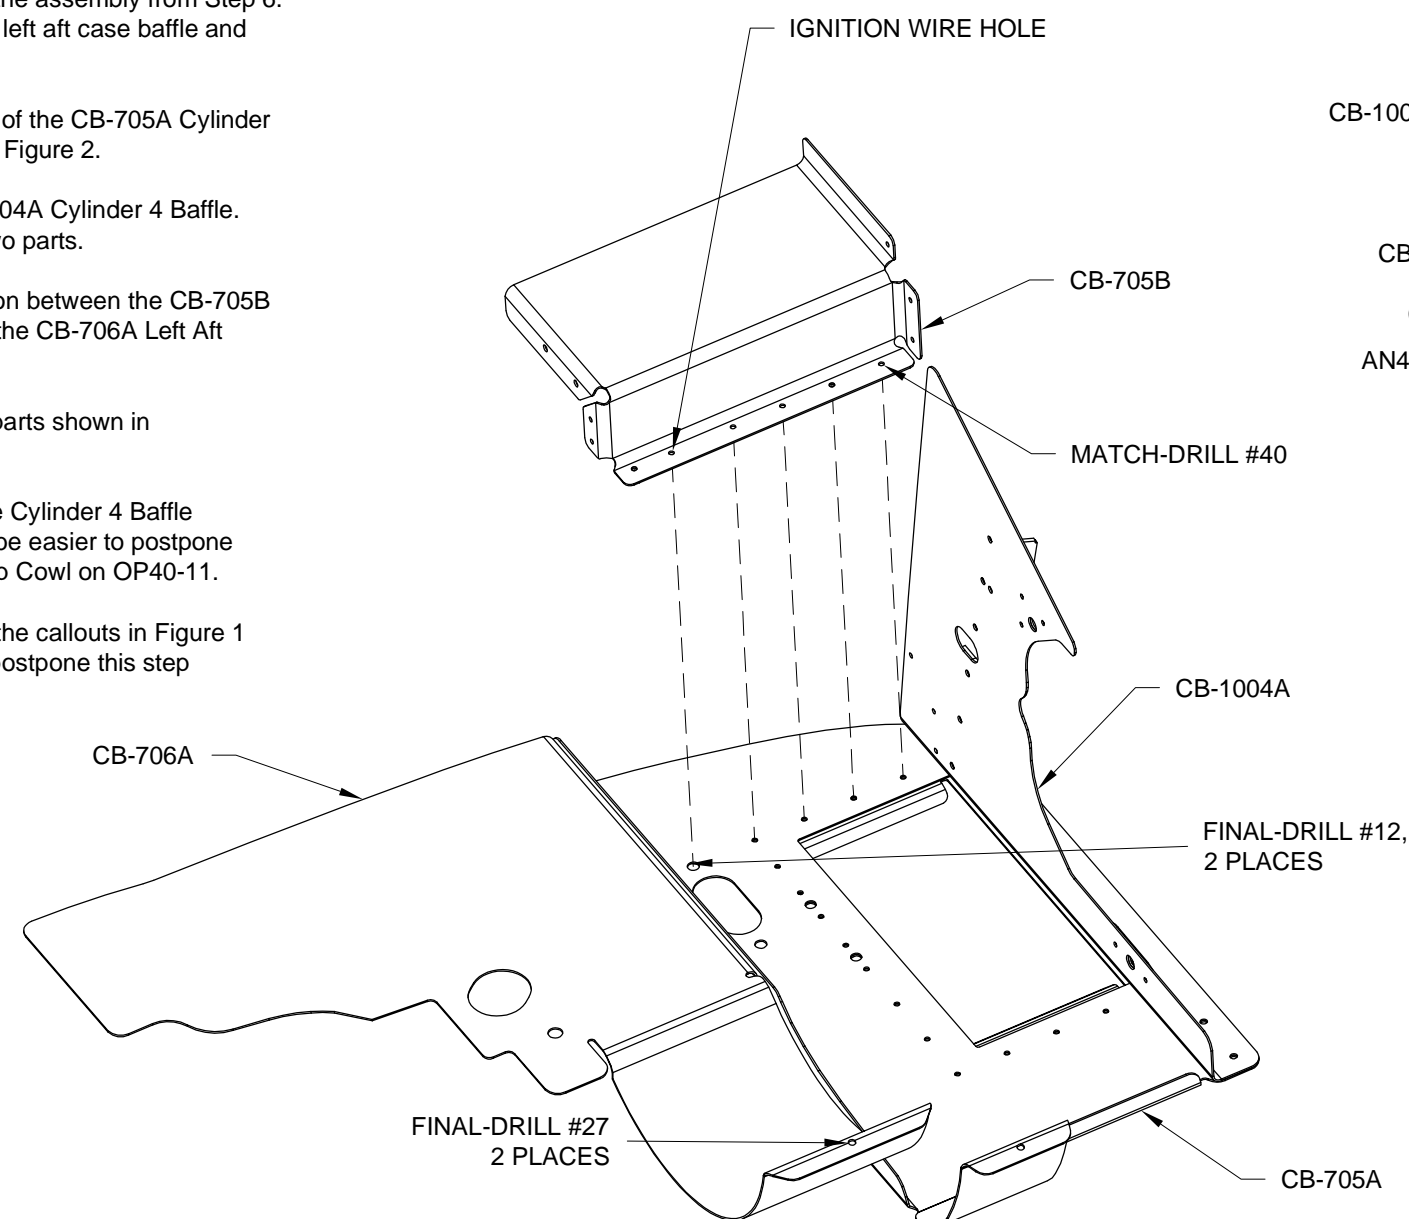

FIGURE 2: MATCH-DRILLING THE OIL COOLER BRACE
Step 11: Disassemble and deburr then recleco all parts shown in Figure 1 and Figure 2.
Step 3: Cleco the CB-1003C Doubler Plates and CB-1008B Stiffener to the CB-708A Cylinder 3 Baffle as shown in Figure 2. Cleco the CB-700E Doubler Plate to the CB-707A Right Aft Case Baffle.